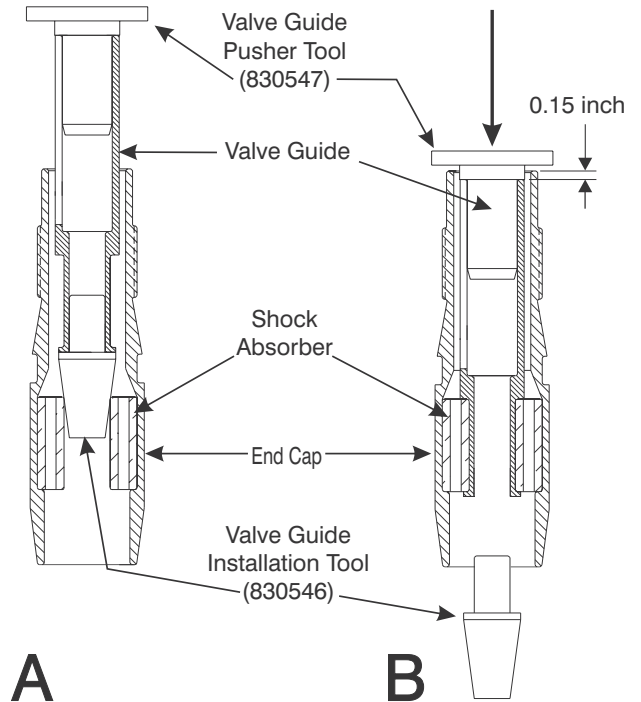

Figure 9-15. Press The Valve Guide into The Shock Absorber.
4. Center the assembled Valve Guide (14) and Tools 830547 and 830546 over the bore of the shock absorber as shown in Figure 9-15-A.
5. Press the Valve Guide (14) into the Shock Absorber (15) until the center shoulder of the Valve Guide seats against the Shock Absorber, as shown in Figure 9-15-B.
6. Valve Guide Installation Tool 830546 will fall free of the Valve Guide as the guide protrudes from the Shock Absorber, as shown in Figure 9-15-B.